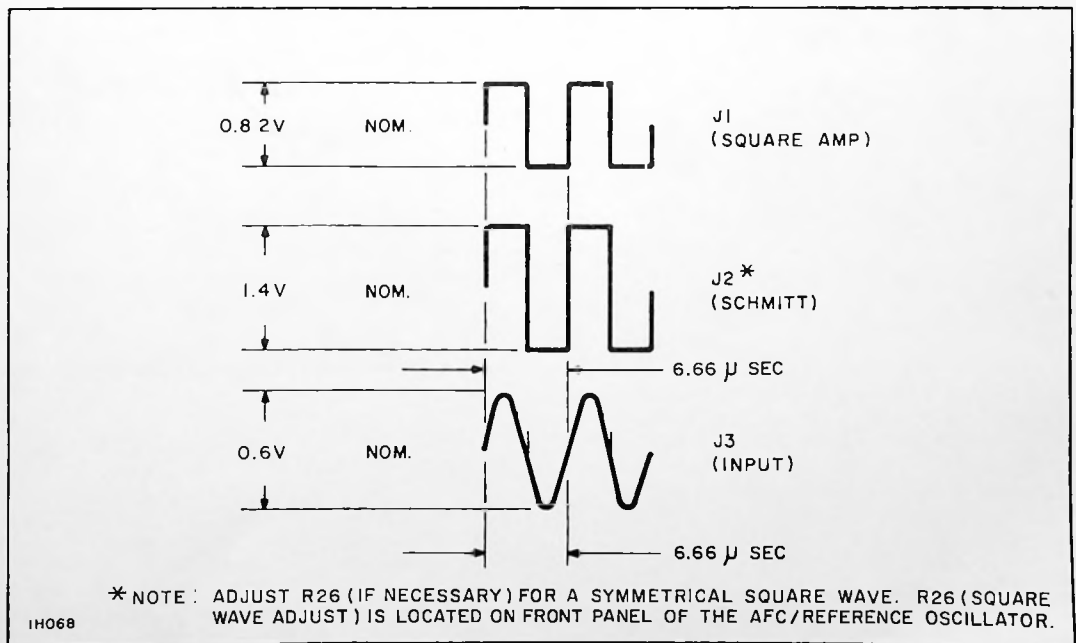

Figure 6-6. AFC Difference Frequency Waveforms
19. With control established, the AFC difference frequency (150 kHz) waveforms should be present at the AFC/Reference Oscillator Module test points shown in Figure 6-6. If necessary, the 150 kHz pulses are to be adjusted for symmetry by varying front panel adjust R26 on the AFC/Reference Oscillator Module MI-560533.